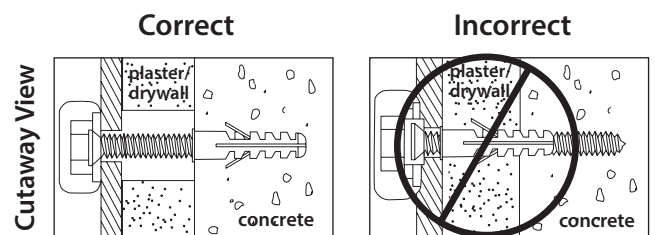

Figure 2
- A. Pre-drill holes into concrete using 5/16" drill bits to a depth of 2-1/2". Insert concrete wall anchors (W) and tap in with hammer, if necessary (Figures 2 & 3).